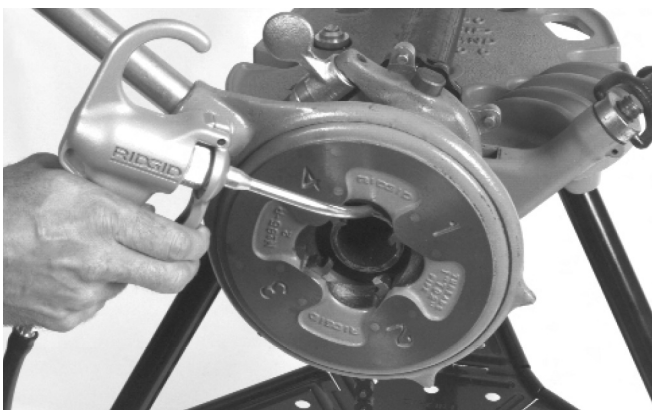

Figure 6 – Applying Thread Cutting Oil
- Apply a generous quantity of RIDGID Thread Cutting Oil when threading (*Figure 6*). Use of a lubricating oil or a poor thread cutting oil can result in a poor quality cut thread, leaky joints, short die life and high handle forces.